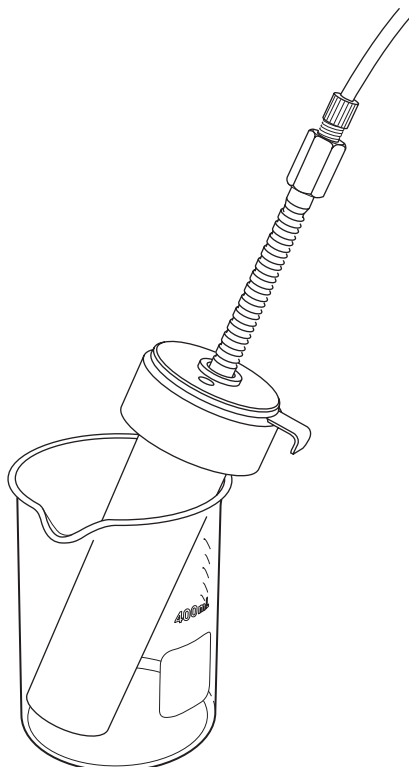

Figure 6: Dry the sample using the internal air pump (Optional)
- a. Place the end of the cartridge in a beaker to capture solvent and any compound that “breaks through” (Figure 6).